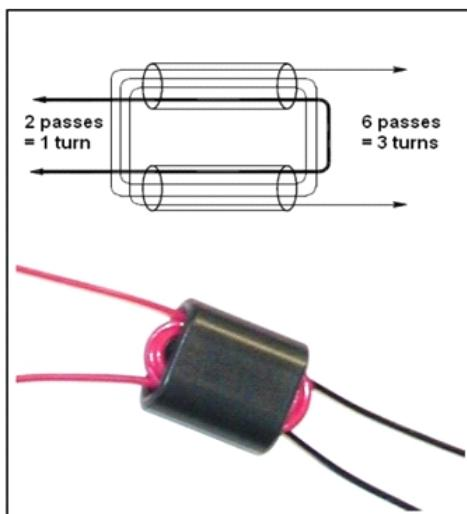
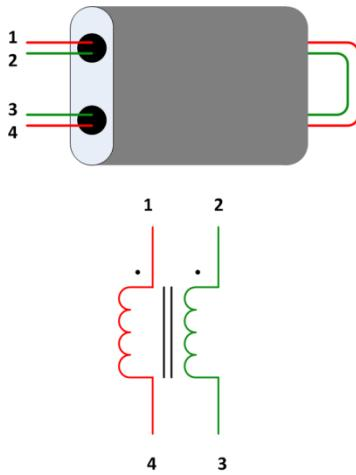

Figure 10. Transformer winding technique
Figure 15. Bifilar winding technique
8. Wind T1 on the binocular ferrite core with a 5-turn primary using green magnet wire and a 5-turn secondary using red magnet wire. Refer to Figure 10 as an example of a transformer winding. The primary and secondary windings should exit from opposite ends of the core.
16. Transformer T1 consists of a center-tapped winding (10 turns total) made with a single wire. As in Figure 10, two passes form one turn. You may find it convenient, however, to make the portions of the winding above and below the tap point with separate wires. First wind 5 turns through the core and then start a second winding of 5 turns with another wire. Join the end of the first 5 turns with the beginning of the second 5 turns to form the tap point. Install and solder the three transformer connections to the PCB. The center tap goes to the middle hole on the PCB. Because of the symmetry of the tapped transformer, it does not matter which ends of the transformer go to the outer holes.
18. Transformers T2, T3, are T4 are wound as bifilar transformers. Figure 15 shows the bifilar winding technique. Take two wires (shown as red and green in the figure) in parallel and wind them through the binocular core, keeping them together as though they were a single wire. As in Figure 10, two passes form one turn.
19. Wind T2 and T3 as 7 bifilar turns. Assuming you use red and green wires for each winding, as shown in Figure 15, the red and green wires will each make 7 complete turns through the core. The mounting holes on the PCB for T2 and T3 are labelled R, G, G, R. Solder the two red wires through the R holes and the two green wires through the G holes.
20. Wind T4 as 6 bifilar turns. Assuming you use red and green wires for each winding, as shown in Figure 15, the red and green wires will each make 6 complete turns through the core. The mounting holes on the PCB for T4 are labelled R, G, G, R. Solder the two red wires through the R holes and the two green wires through the G holes.